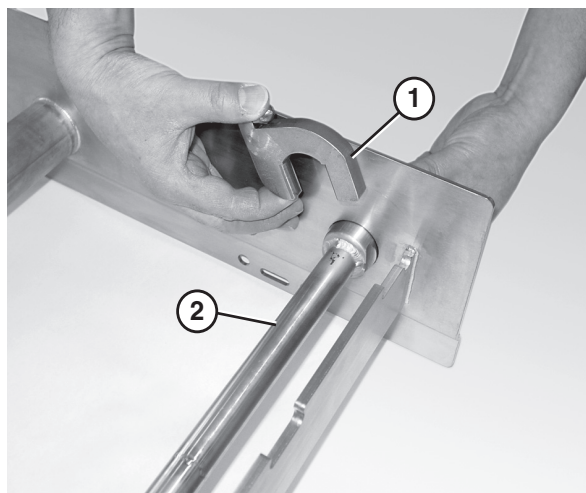

Figure 19
2. Attach the key stops (Figure 19, item 1) to the tip up shaft (Figure 19, item 2). The rounded end of the key stop should face the tail.